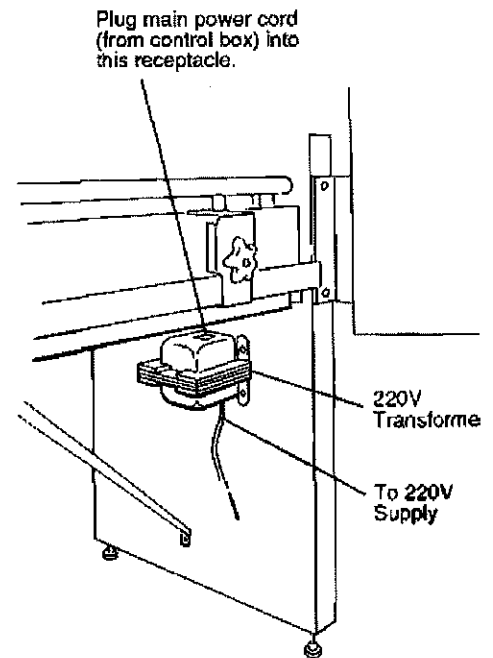

FIG. 8
2. Mount the transformer in the four existing holes on the inside of the right leg. See FIG. 8. Use four 1/4-20 x 3/4" hex head screws, lock washer, and nuts (packed with the transformer).